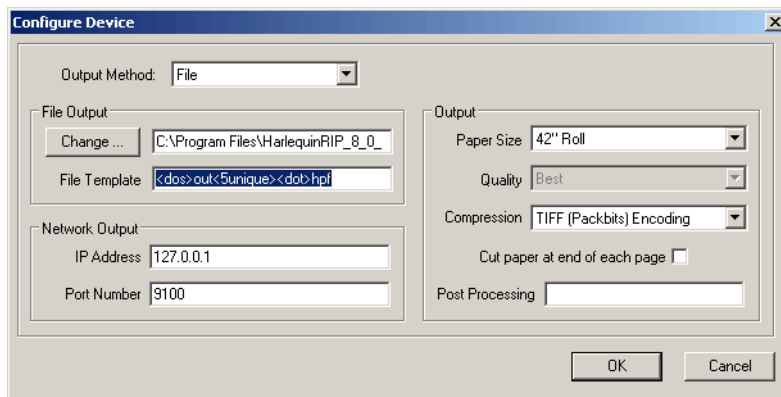

Figure 8 The Configuration Device window
3. With the appropriate device selected, click Configure Device to open the Configure Device window, which is shown in Figure 8 on page 9. The following device configuration options are available: